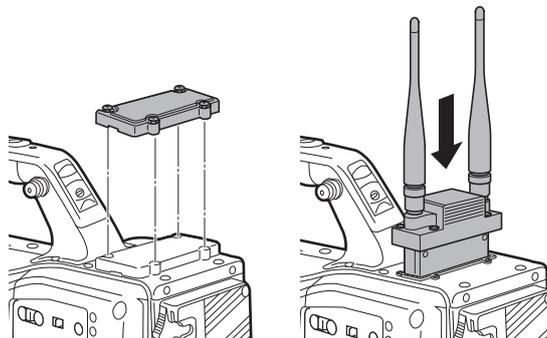

Fig. 1
- 1** Remove the cover to insert the wireless microphone receiver and secure it with the screws. (Fig. 1)